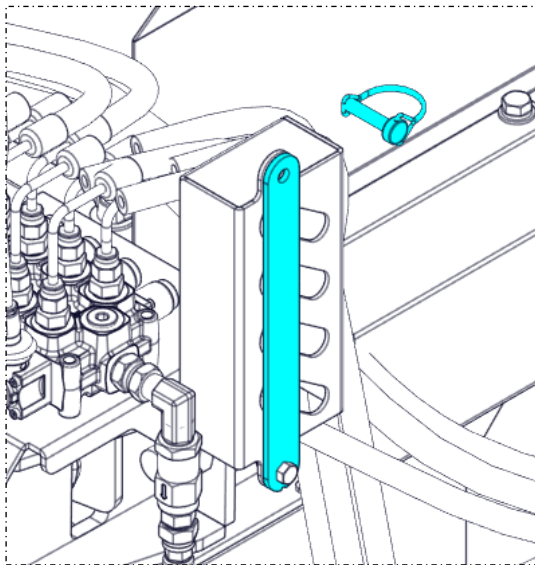

Figure 4.26
- A) Open the quick pin that is holding the lock plate and the front panel of the hose hanger (Figure 4.26).